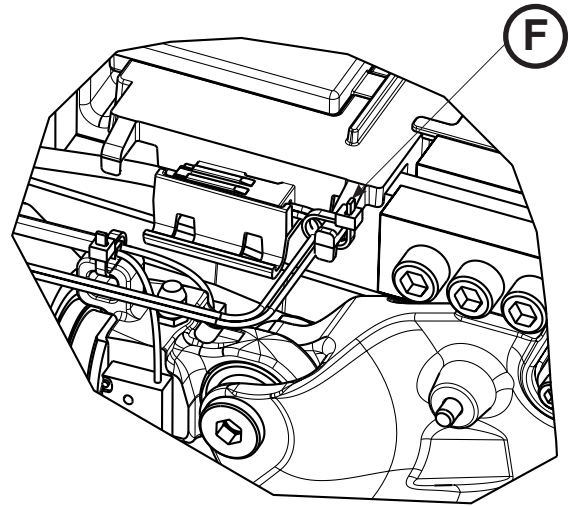

Figure 72
- Using diagonal pliers, cut the cable ties (F) that secure the hydraulic cylinder rod end assembly cable to the plastic cover (Figure 72).